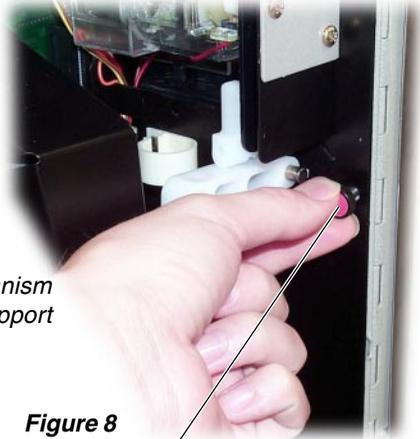

Figure 8
- 2.- Loosen the safety screw from the coin mechanism support and remove it by pulling and turning toward the right (**figure 8**) previous to removing the closure bar.